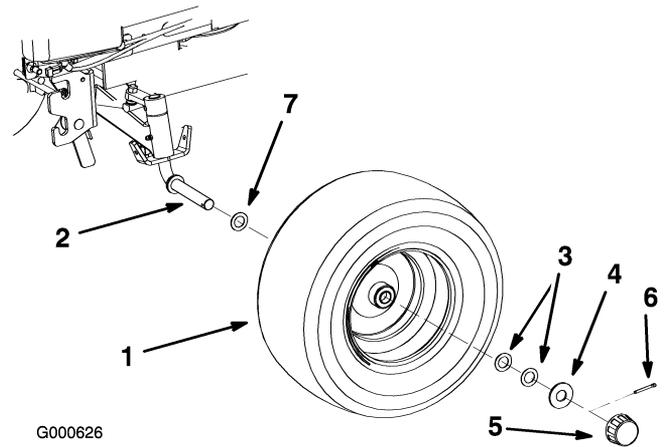

Figure 7
1. Remove the tires from the crate (Figure 7).
2. Install a thin washer (3/4 inch) onto the axle (Figure 7).
3. Slide wheel onto axle with valve stem in (Figure 7).
5. Insert cotter pin through the axle and bend the ends of the pin open (Figure 7).
6. Push the cap onto the end of the axle so it snaps over washer (Figure 7).